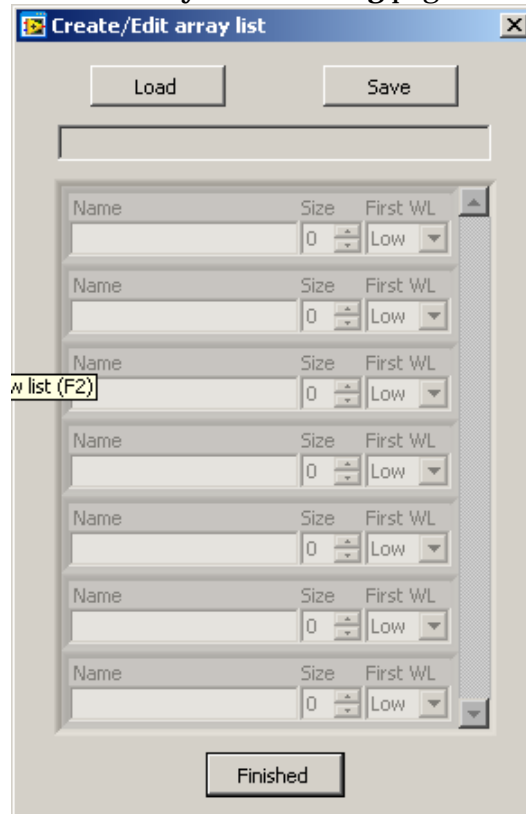

Figure 3.15.2: Array list editor
- i. In the first Name input field (Figure 3.15.2), type in the name of the *.xml file (just the core filename, not the extension) as saved previously in step 9, section 3.14